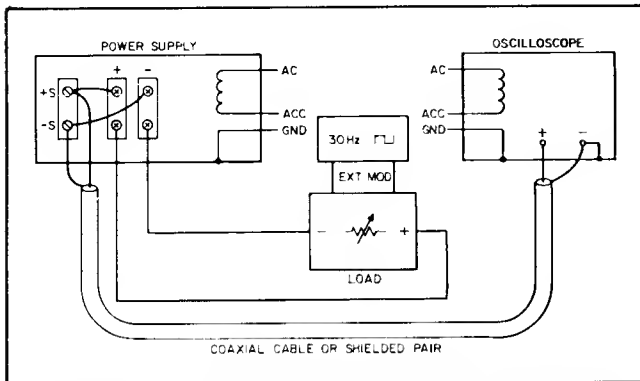

Figure 5-5. Load Transient Recovery Time Test Setup
- Connect the test setup shown in Figure 5-5.